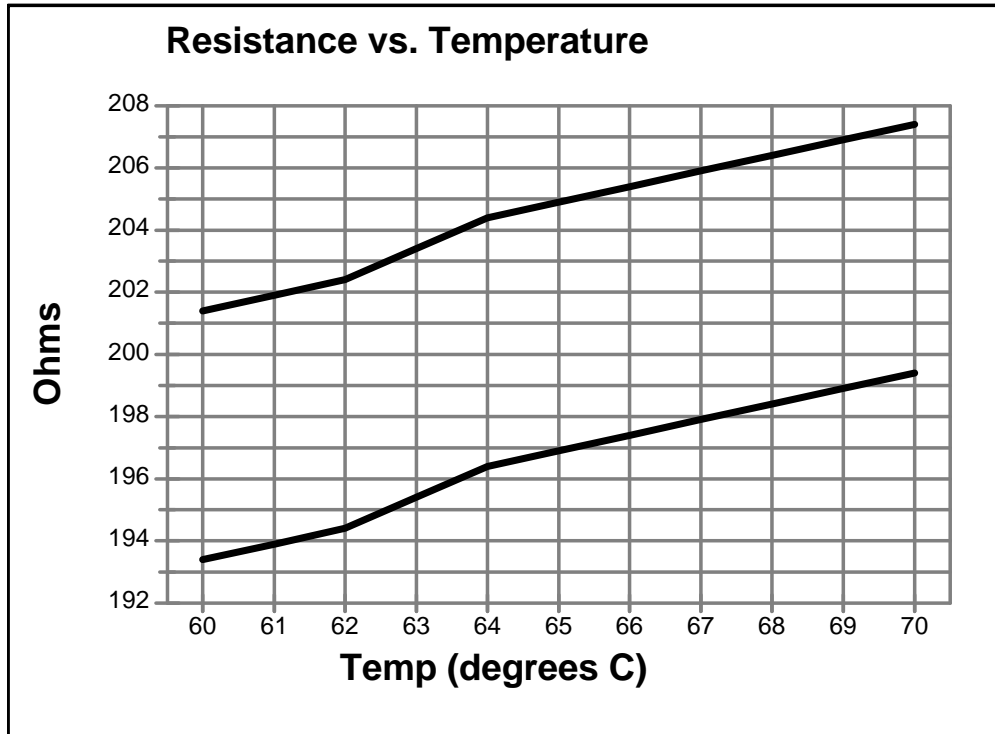

Figure 1
- vi. If the resistance falls within the curve of Figure 1, return to service. If not, replace sensor.